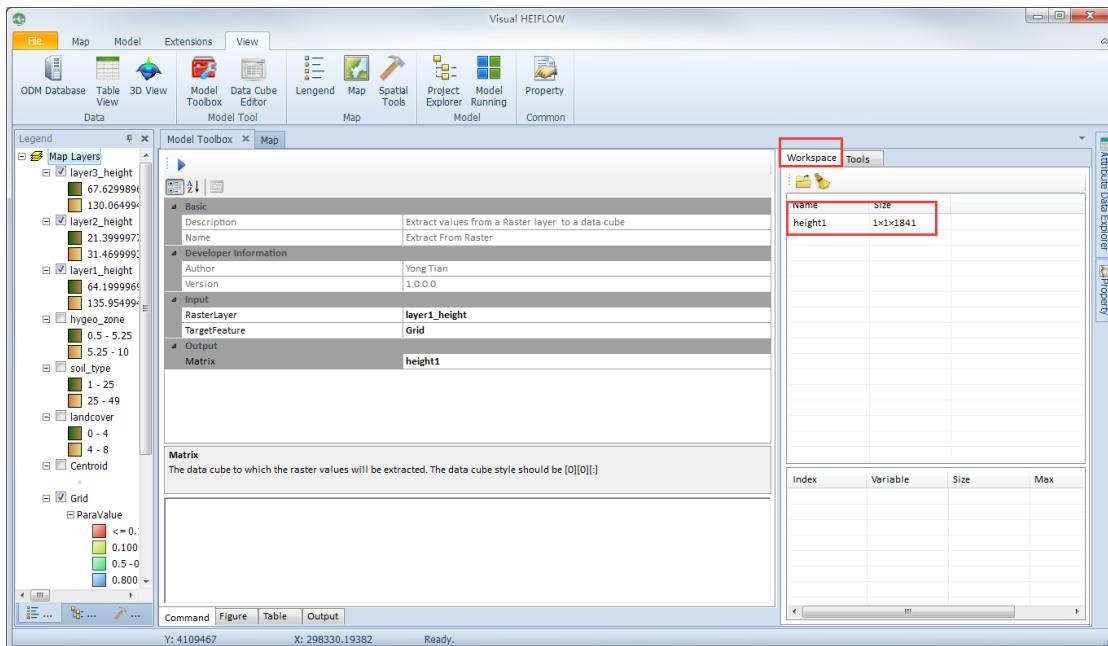

Figure 5-20. Tool Progress dialog
- 5) Select Workspace panel located in the right side of the Model Toolbox view, a data cube named “height1” is added (Figure 5-20).